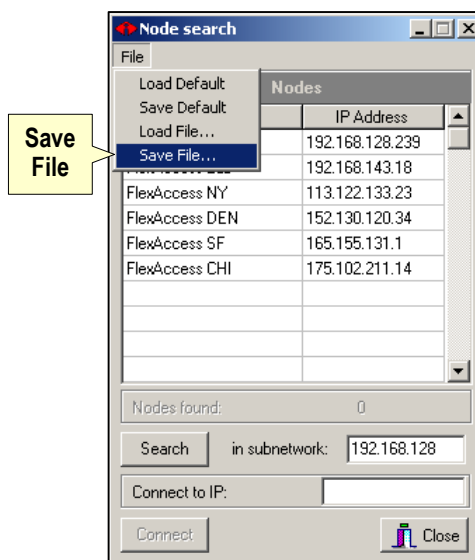

Figure 16 – Save a node list file
- 2 When your list is complete (for now, at least; you can revise it later), click on **File** and select **Save File** (Figure 16).